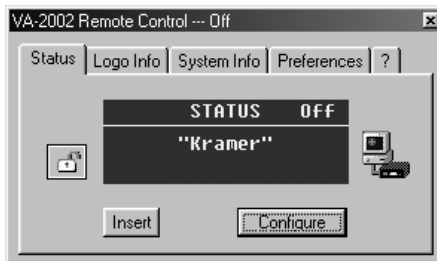

Figure 20: Active VA-2002 Remote Control Window
4. Click Close to activate the VA-2002 Remote Control window, as Figure 20 illustrates: